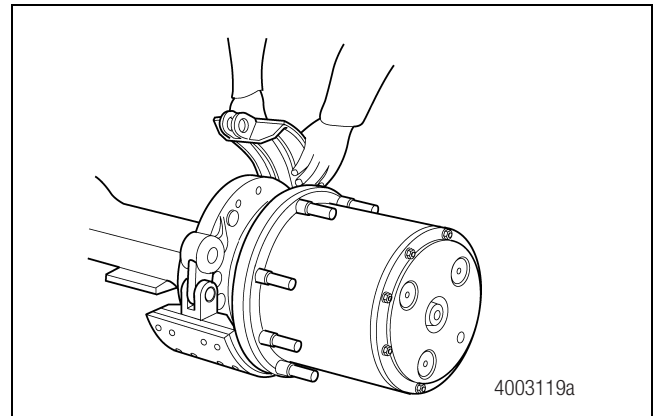
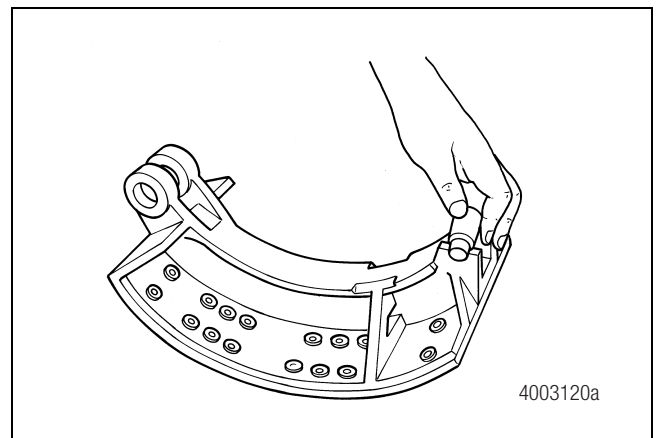

Figure 5.4
Figure 5.5
4. Remove the brake shoes. Figure 5.4. If necessary, remove the rollers. Figure 5.5.